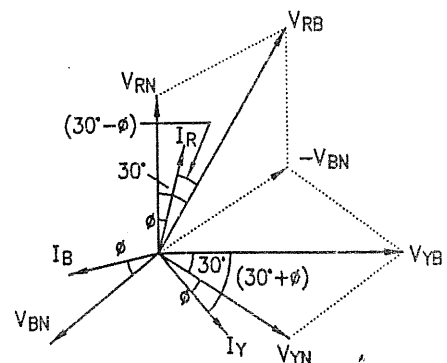

FIG. 2.90 : PHASOR DIAGRAM FOR MEASUREMENT OF POWER LAGGING P.F.
- The phasor diagram for inductive load is shown in Fig. 2.90.